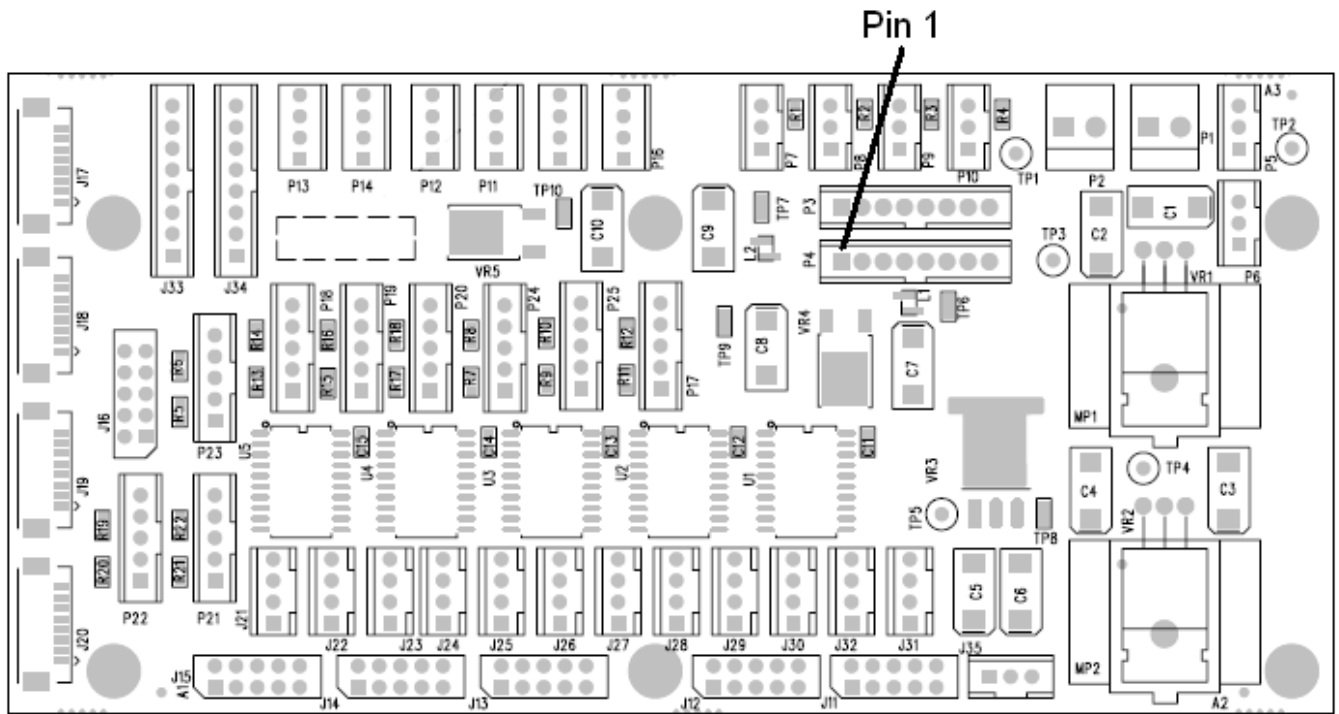

Figure 4-1. 4-Port Test Set Control PCB P4 Connector Location
- See Figure 4-1, “4-Port Test Set Control PCB P4 Connector Location” on page 4-3 below for test point locations.